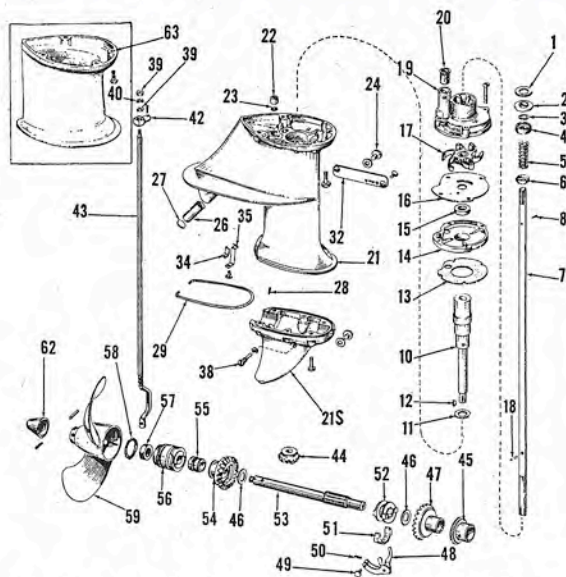

Fig. J30—Lower gear case and water pump assembly used on series CD. Series AD is similar.
Series CD-AD Motors. The propeller shaft (53—Fig. J30) and drive gears (47 & 54) can be removed after first draining lubricant from gear housing, removing pivot screw (38) (or pin) and unbolting and removing gearcase lower housing (21S). To separate gearcase from drive shaft housing, it is first necessary to remove power head, remove nuts (39) and connector (42). Remove power head seal assembly (1 through 6)